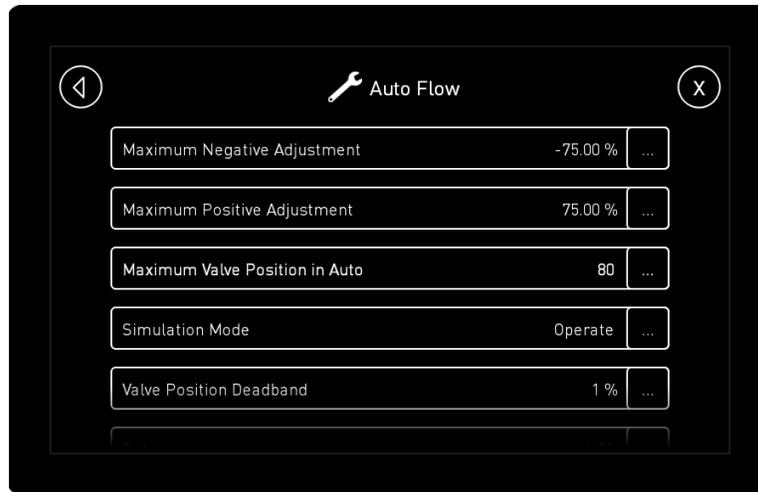

Figure 53. Auto Flow Additional Settings page
6. Select “Adjust”, then select “Auto Flow” to show the Auto Flow parameters (Figure 53).
7. Select “Auto Flow” to show the Auto Flow related adjustment parameters (Figure 53).